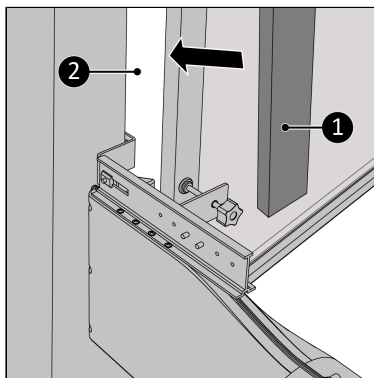

Figure 75.
17. Fill up the open spaces (Figure 75, pos. 2) with the delivered isolation foam (Figure 75, pos. 1), cut the foam if necessary*.